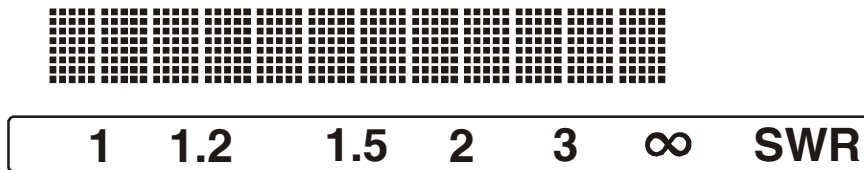

Figure 7. SWR Bar Meter.
- LCD Display:** A 2-line by 16-character alphanumeric display with backlight. It displays the unit’s various menus and status. The display contrast can be adjusted by the LCD contrast control on the front panel. Below the display are the SWR and power bar meter scales. Refer to Figure 7 for descriptions of the various displayed information.
The main mode menus show various wattmeter settings and status. There are four main mode menus arranged in a “wrap-around” structure. When powered on, wattmeter operation starts with the main menu that was last used. Within each main menu, press the [MODE] button briefly to view the next main menu. Press and hold the [MODE] button for two seconds to enter the setup mode (see below). Refer to Figure 7 for details on the displayed information.